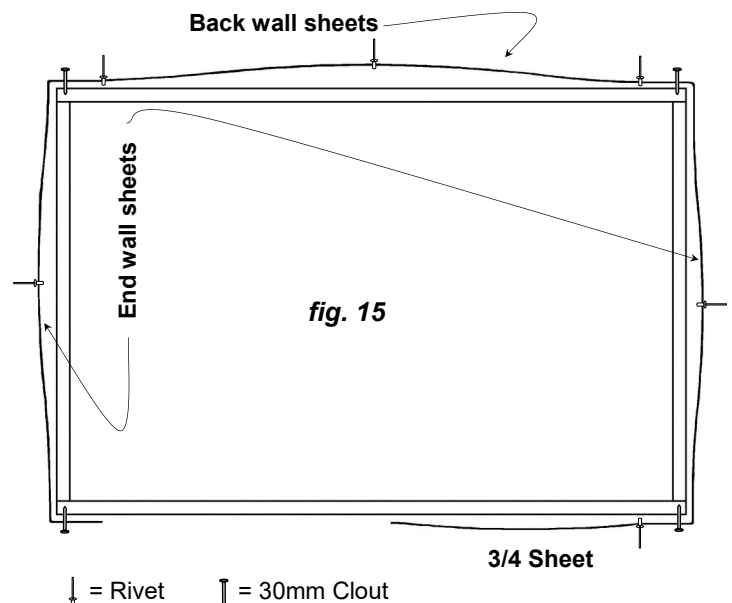

fig. 15
- 7.7 Now that the back wall sheets are joined, place them in position against the framing on the back wall (ensuring that they overlap the corner sheets correctly, and rivet them top and bottom to the corner sheets (**fig 15**).
- 7.8 Select the 3/4 Front Wall Sheet. Position it to the right of the doorway, overlap the rib with the corner sheet and rivet top and bottom . (**fig 15**).